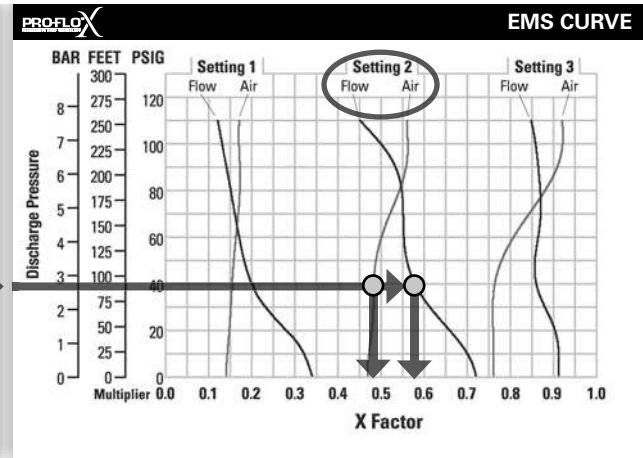

Figure 2
FIGURE 2 When the pressurized diaphragm, diaphragm A, reaches the limit of its discharge stroke, the air valve redirects pressurized air to the back side of diaphragm B. The pressurized air forces diaphragm B away from the center while pulling diaphragm A to the center. Diaphragm B is now on its discharge stroke. Diaphragm B forces the inlet check valve onto its seat due to the hydraulic forces developed in the liquid chamber and manifold of the pump. These same hydraulic forces lift the discharge check valve off its seat, while the opposite discharge check valve is forced onto its seat, forcing fluid to flow through the pump discharge. The movement of diaphragm A toward the center of the pump creates a vacuum within liquid chamber A. Atmospheric pressure forces fluid into the inlet manifold of the pump. The inlet check valve is forced off its seat allowing the fluid being pumped to fill the liquid chamber.
Step 2: Determining flow and air X Factors. Locate your discharge pressure (40 psig) on the vertical axis of the EMS curve (Figure 2). Follow along the 2.8 bar (40 psig) horizontal line until intersecting both flow and air curves for your desired EMS setting (in this case, setting 2). Mark the points where the EMS curves intersect the horizontal discharge pressure line. After locating your EMS points on the EMS